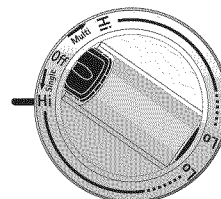

Figure 3
2. Push in and turn the control knob as shown in Figure 3 to heat the front portion of the Bridge element for normal shaped cookware or in Figure 4 for larger or rectangular shaped cookware.